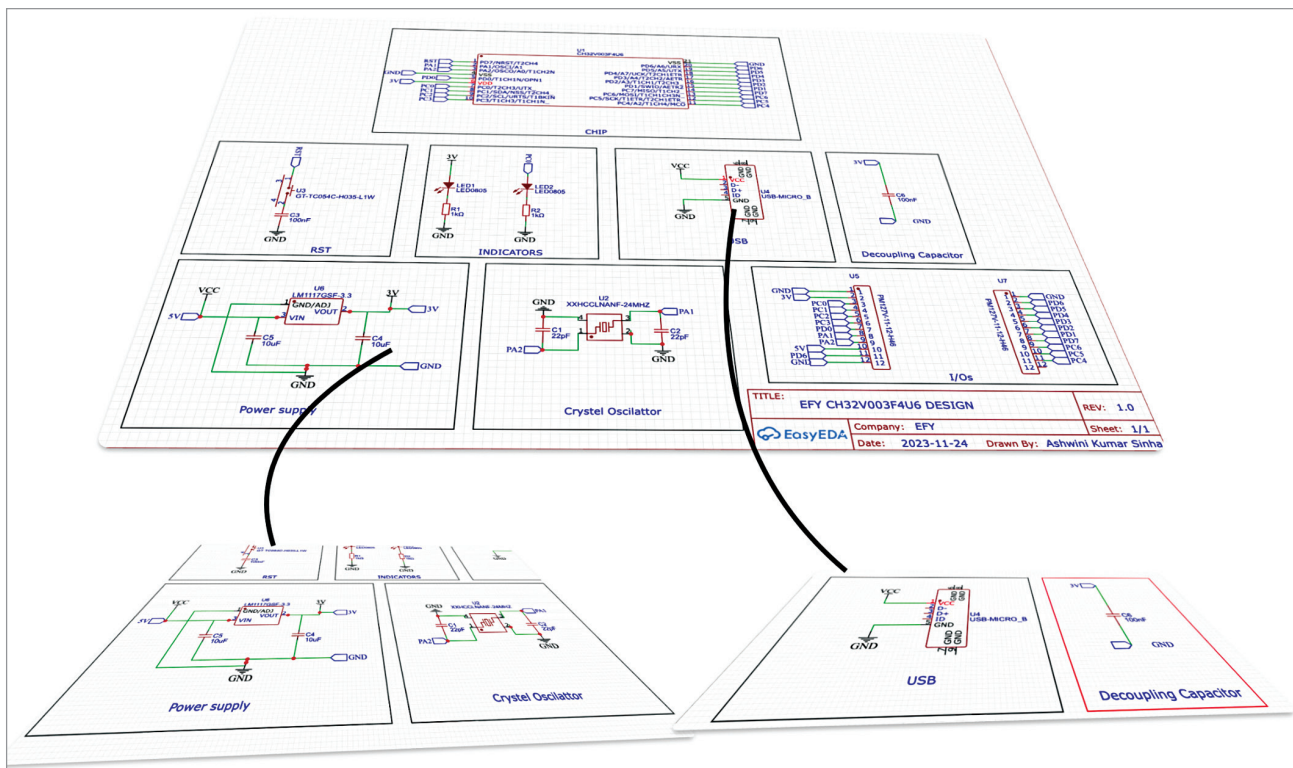

Fig. 4: Example circuit of RISC-V system where each component is divided into blocks connected over nets
4. Hierarchical design. Nets enable hierarchical design methodologies, where complex circuits are divided into hierarchical blocks or modules. Each module communicates with others via named nets, simplifying the overall design structure and enhancing readability (Fig. 4).